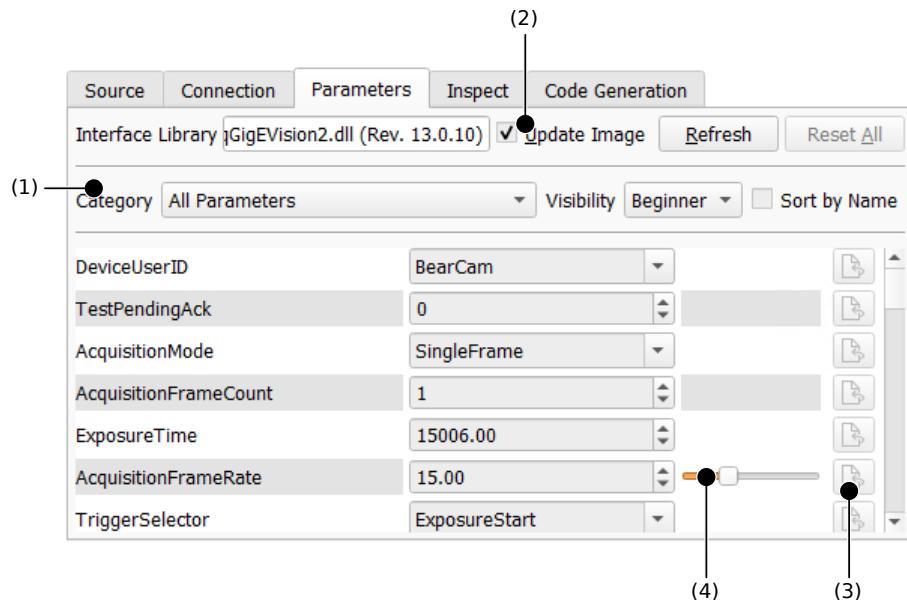

Figure 3.7: Device-specific parameters (example).
The tab card Parameters contains a list of parameters specific to the selected device. It becomes available once the connection to the device has been activated. See figure 3.7 for an example parameter list. The range of parameters can be limited by category and visibility (1). Please refer to the HTML page of the selected interface for detailed information. You can click the help button of the assistant to get to the corresponding page automatically.